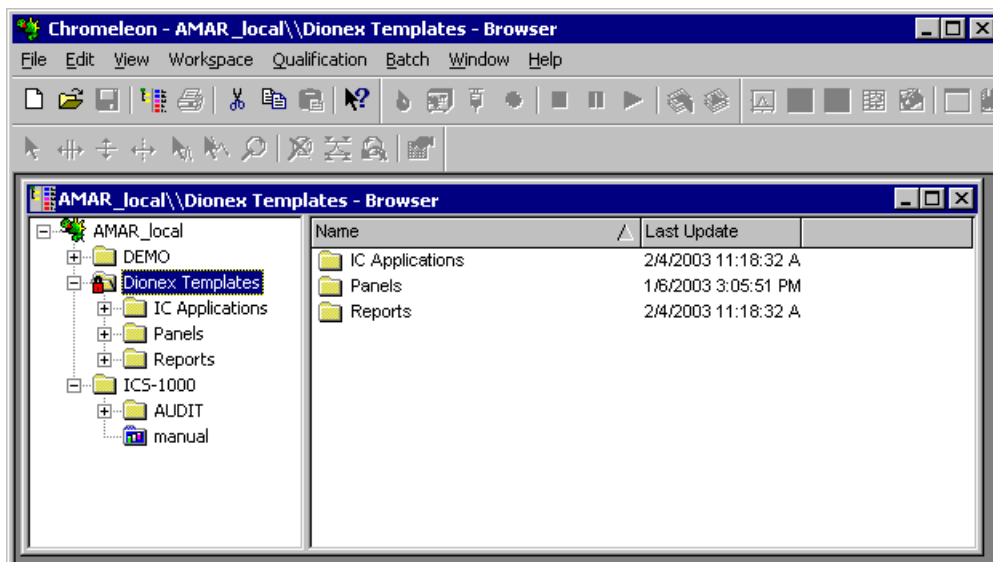

Figure 3-4. Chromeleon Main Window and Browser
2. Start Chromeleon by selecting **Start>Programs>Chromeleon>Chromeleon**. The Chromeleon main window and the Browser will open. Your screen display should resemble Figure 3-4. If the Browser does not open, select **File>Browser** to open it.
3. Offset the background and zero the reading by clicking the **Autozero** button on the Chromeleon Control panel (see Figure 3-4).
- If the pressure is less than the expected amount, gas may be trapped in the system. To release the gas, remove the pump fitting on the injection valve port, labeled **P (2)**. Allow the air to escape and then reconnect the fitting.